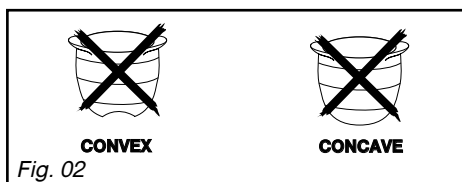

Fig. 02
– Do not use cookware with a concave or convex bottom (Fig. 02).
– Use cookware of an appropriate size: the diameter of the bottom of the cookware should be equal to or greater than the diameter of the electric cooking plate (Fig. 02).